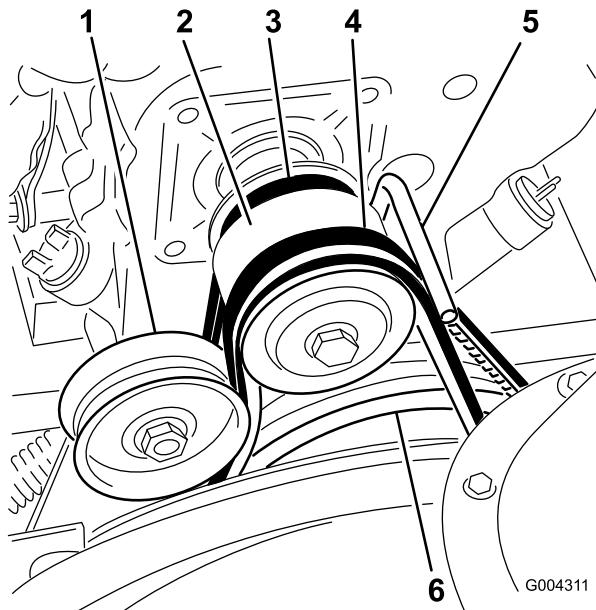

Figure 40
1. Flange-head bolt (2)
3. Loosen the belt guide (Figure 40).
4. Remove the auger/impeller drive belt from the engine pulley and the large auger/impeller pulley (Figure 40).
9. Remove the traction drive belt from the engine pulley and the large traction pulley (Figure 40).
11. Loop the belt over the engine pulley, ensuring that the belt is on the inside of the belt guide (Figure 40).
16. Install the auger/impeller drive belt around the large auger/impeller pulley and engine pulley, ensuring that the belt is on the inside of the idler pulley and the belt guide (Figure 40).
2. Loosen the belt guide (Figure 40).
3. Remove the auger/impeller drive belt from the engine pulley and the large auger/impeller pulley (Figure 40).
4. Install a new belt around the large auger/impeller pulley (Figure 40).
5. Loop the belt over the engine pulley, ensuring that the belt is on the inside of the idler pulley and the belt guide (Figure 40).